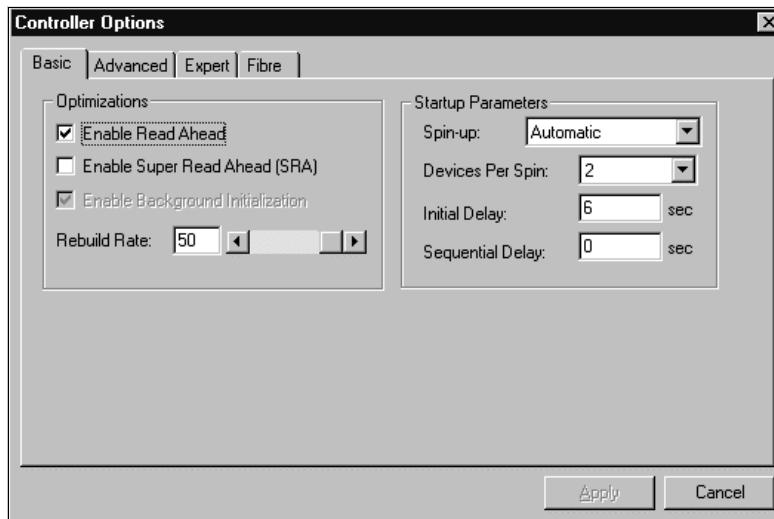

Figure 4: SAM Basic Controller Options Dialog Box (simplex)
- ▶ Open the *Basic* dialog box and set the parameters as shown in figure 4.